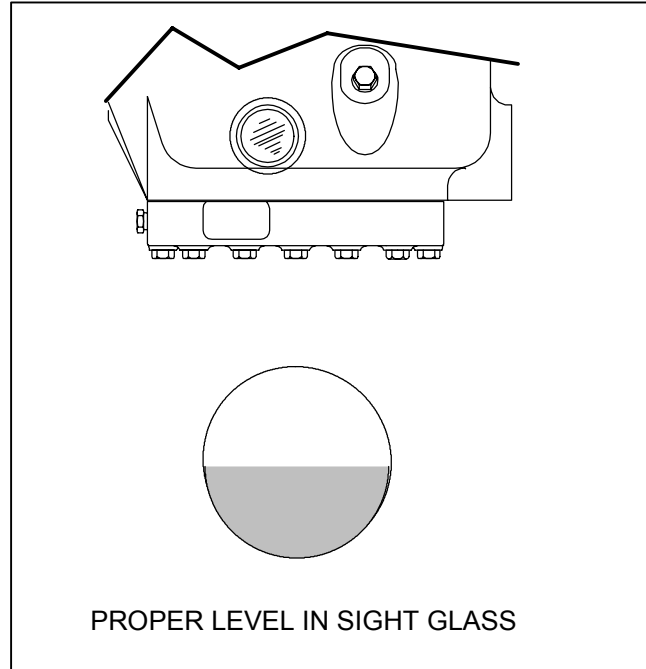

Figure 2-2. Oil Level in Sight Glass
- Check oil level in sight glass (See Figure 2-2). If necessary, add or remove oil.